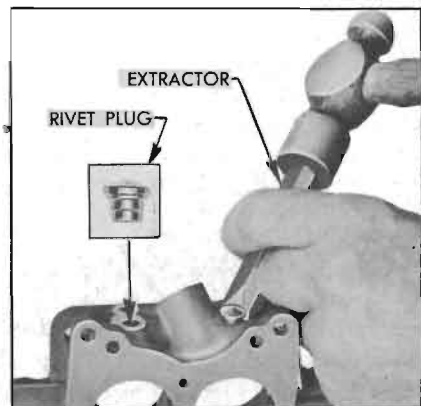

Figure 3-33—Removing Rivet Plug
18. Remove idle adjustment screws and springs from body flange. Remove both idle port rivet plugs, using Rivet Extractor T109-210. See figure 3-33.
8. *Main Body.* If passages in main body appear to be clogged with carbon and gum to such an extent that penetration of cleaning solution is doubtful, remove both nozzle passage rivet plugs using Rivet Extractor T109-210 (shown in fig. 3-33). *Do not attempt to remove nozzles from main body under any circumstance.*